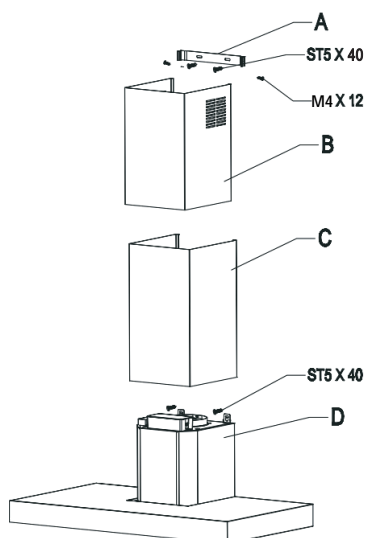

Fig. 7
- Fix the inner duct to both mounting bracket using 2(two) M4 x 12 screws provided (Fig. 7).